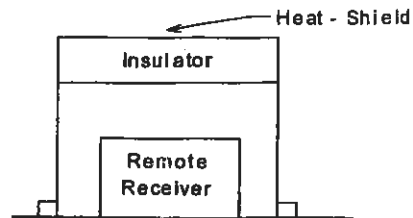

Figure 4
- In order to prevent the Remote Receiver (fireplace installation only) from overheating, put a heat shield (option item) above the Remote Receiver. See *Figure 4*.